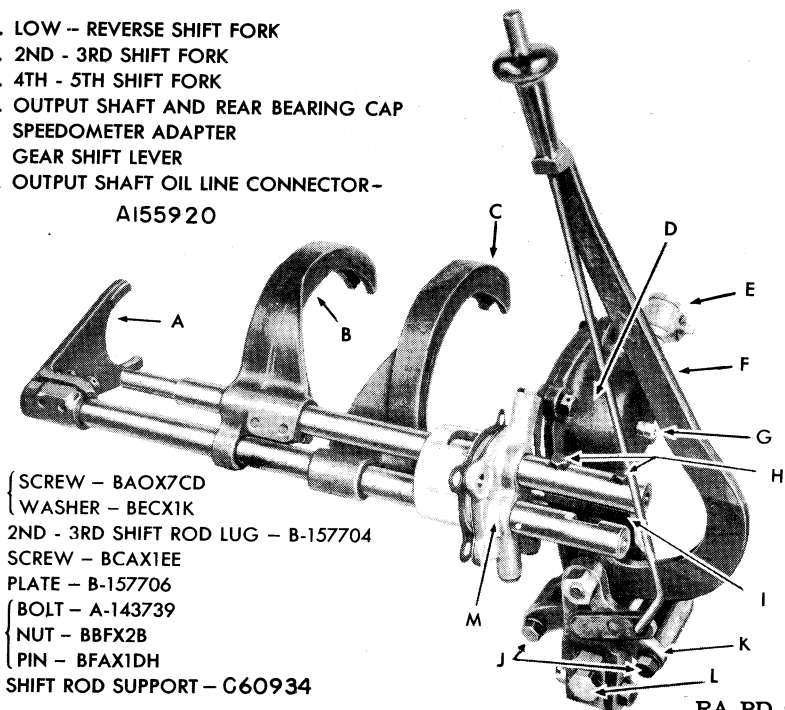

FIGURE 20—Shift rod group assembly.
(6) Remove gear shift lever assembly (figs. 20, 21 and 58).
Remove locking wire. Using a $\frac{9}{16}$ -in. socket wrench, remove two cap SCREWS (BAOX7CD) and lock WASHERS (BECX1K). Remove shift rod LUG (B157704) (fig. 20). Using a $\frac{3}{4}$ -in. socket wrench remove three shift rod spring retaining PLUGS (A143749). Remove two lower shift rod SPRINGS